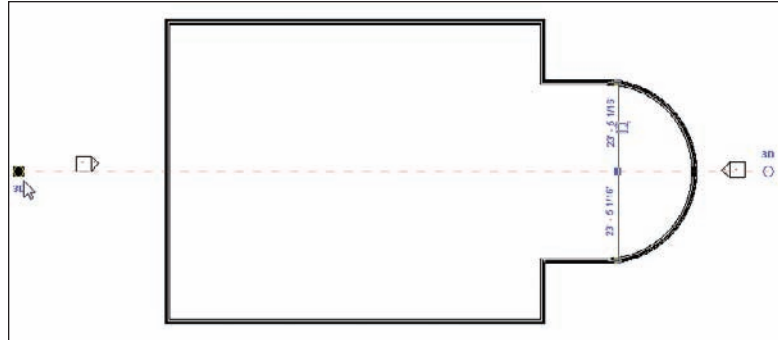

FIGURE 2.3 You can grip-edit reference planes to the required length.
3. Draw the reference plane through the center of the building, extending each end past the exterior walls. (Remember, this is a construction line. You can go long if you need to). See Figure 2.3 for an idea of where the line should go.
4. If the line is not the length you would like it, you can stretch it. First select the line; at each end, you will see blue grips. Simply pick (left-click) the grip and stretch the reference plane to the desired length, as in Figure 2.3.